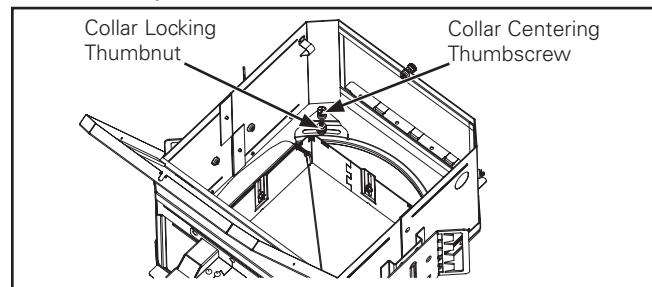
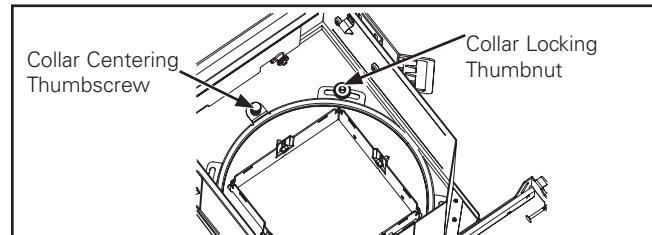

Figure 1.
Figure 2.
- If adjustment of the rotational alignment of the collar is necessary, loosen the collar centering thumbscrew and the collar locking thumbnut (Figure 1.). For use of RA4X4 with P406TAT / P408ICAT housing, the collar centering thumbscrew and collar locking thumbnut have a different location (Figure 2.). Rotate the collar to the desired position and then tighten the collar locking thumbnut. Do not tighten the collar centering thumbnut once the rotation disc has been changed from the factory set position.